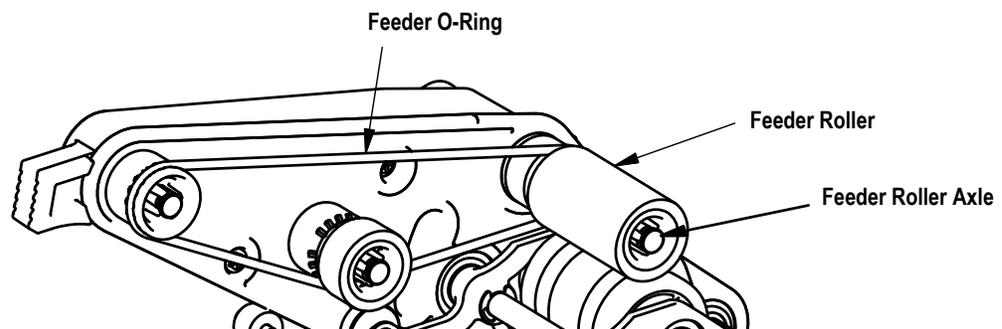
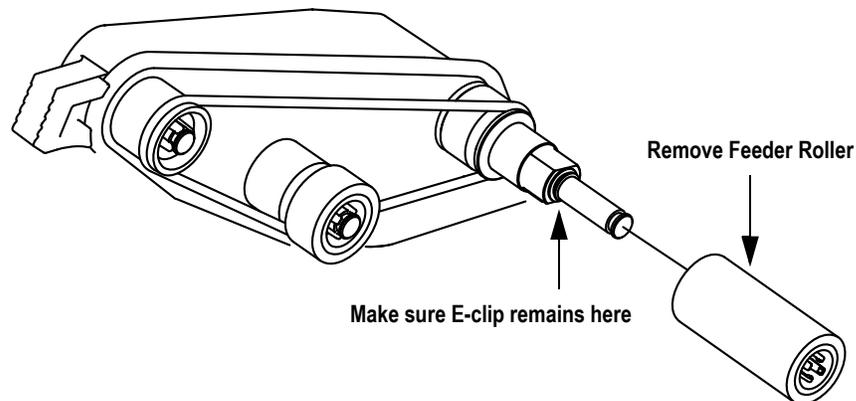

FIGURE 38: Feeder assembly O-ring location
FIGURE 39: Removing the feed roller
- 4 Pull the feeder roller off the feeder roller axle (see Figure 38). Be careful not to remove the e-clip located inside the roller from the axle (see Figure 39).
- 6 Install the new o-ring to the location shown in Figure 38 and Figure 39.